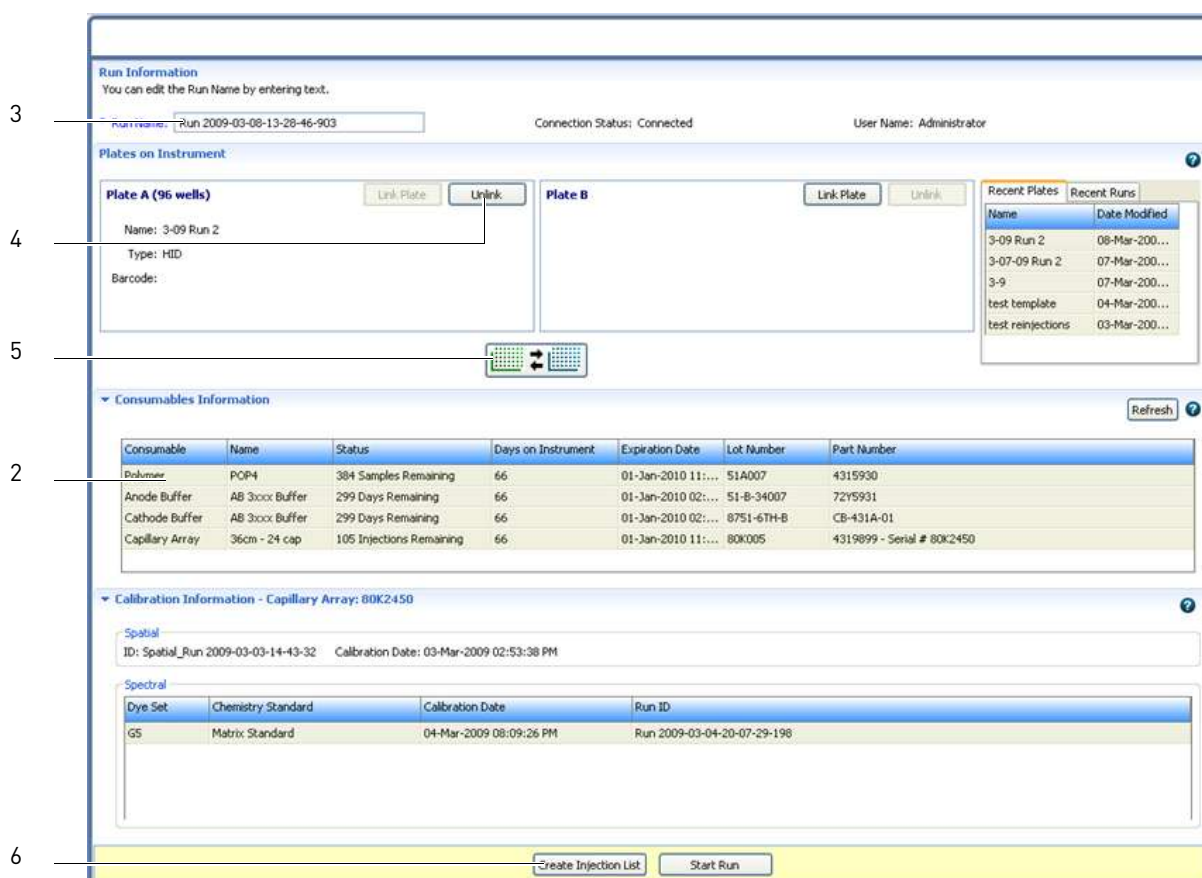

Figure 5 Load Plates for Run
1. Access the Load Plates for Run screen (Figure 5 on page 65) from: